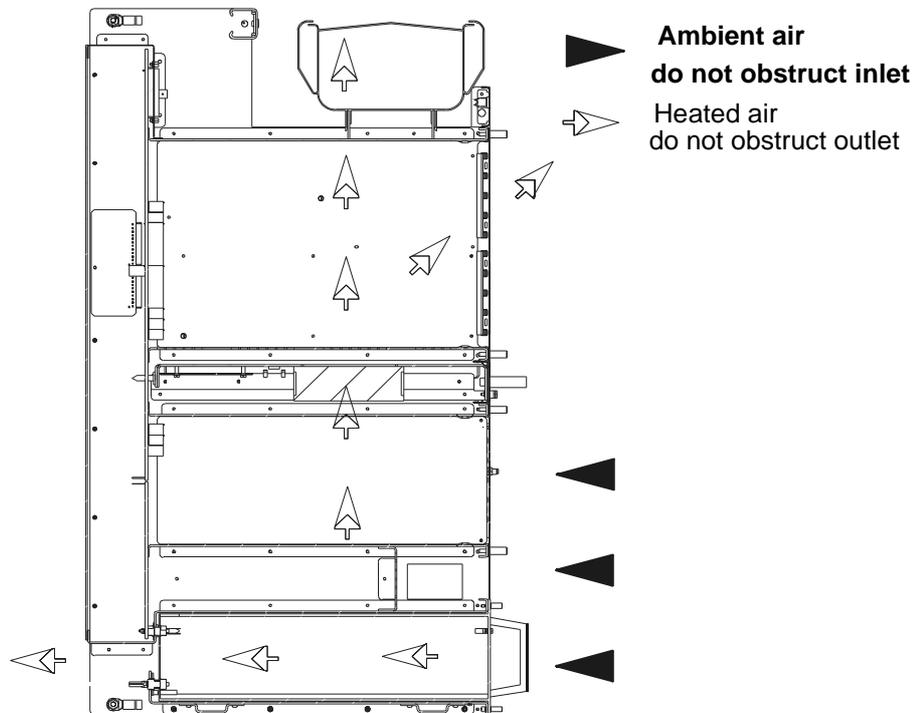

Figure 39 – Ventilation of the DBS chassis (cross-section)
- The installation of rack (optional) and chassis must enable the ventilation shown *Figure 39 – Ventilation of the DBS chassis (cross-section)*. Do not obstruct the air inlets and outlets.